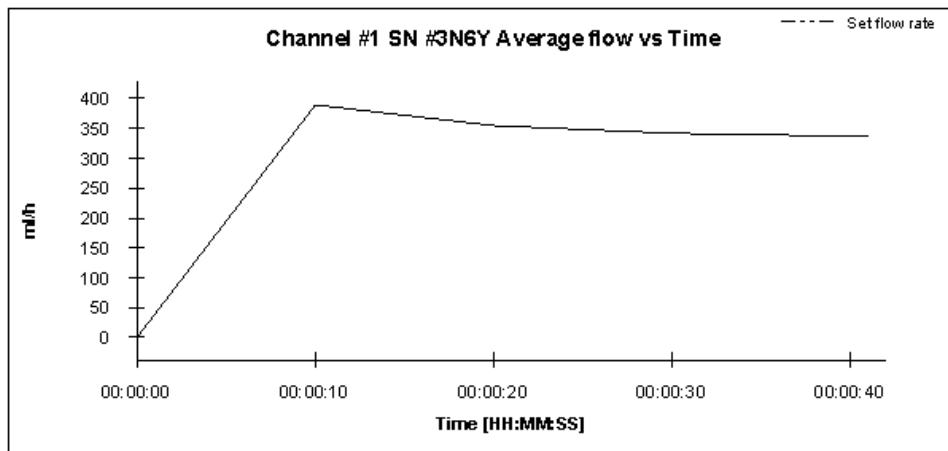

Figure 4-16. Print Preview Window
5. Click the **Print** button to open the Preview window as shown in Figure 4-16.